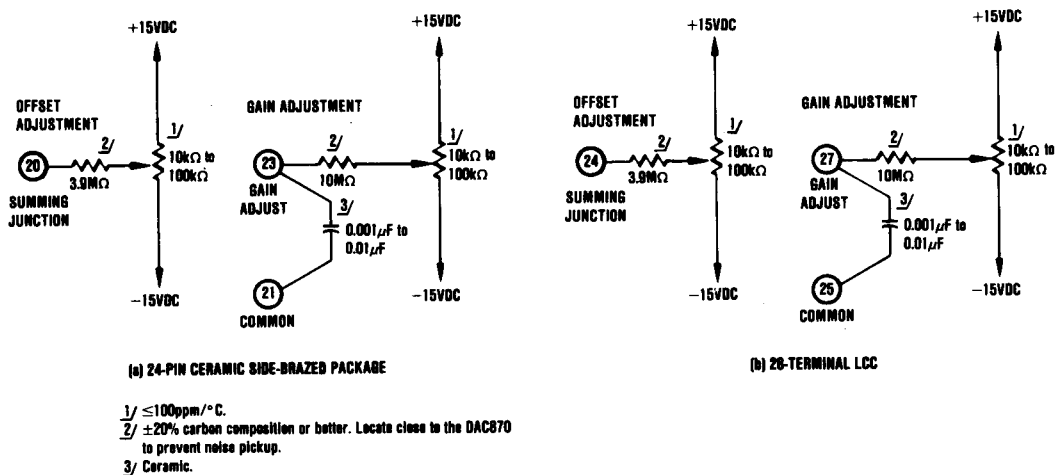

FIGURE 4. Offset and Gain Error Adjustment Circuits.
3.3.1 Offset and gain error adjustment. The DAC is capable of being externally adjusted to zero offset error and to zero gain error using the circuits in Figure 4. See applications information paragraph 7.3.